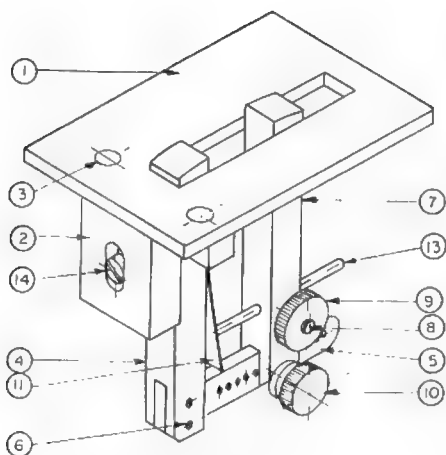

Fig. 1.1- Thinpiece vice.
of them for material down to about $\frac{1}{32}$ in. thick. It was originally devised as an apprentice training exercise by the supervisor of the training school of a large firm, and has given me excellent service for many years. The design has been simplified for the model engineer's use, so that the drawings and the photographs do not quite correspond (e.g. items 4 and 5 are milled from a single piece of material in the original). See Fig 1.1.